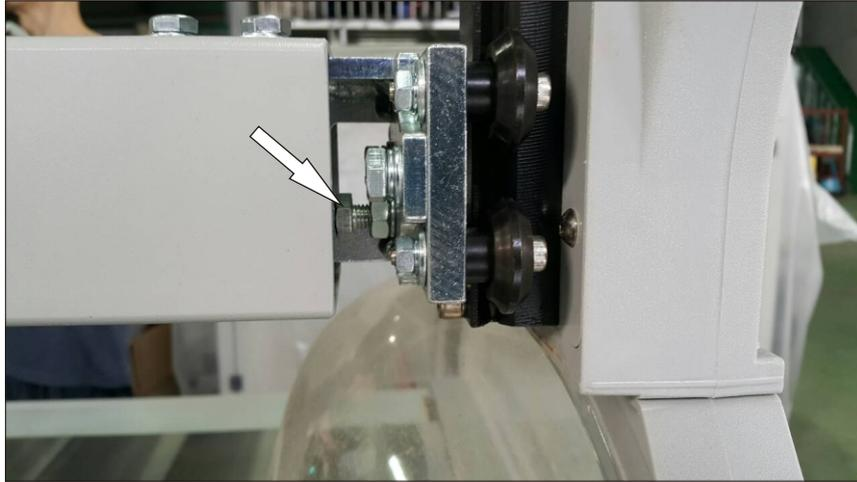

Fig.3-6-1
2. The screw shown in Fig. 3-6-1 is to adjust the tightness/looseness of up / down movement of the saw guard.